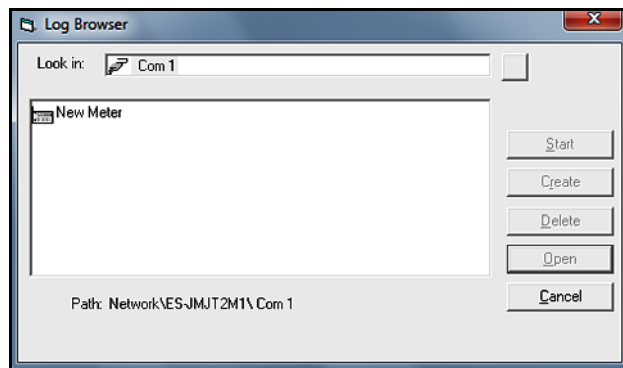

Figure 73: Meter Selection
- b. Double-click *communication port name* to move to the network level shown in Figure 73 below.